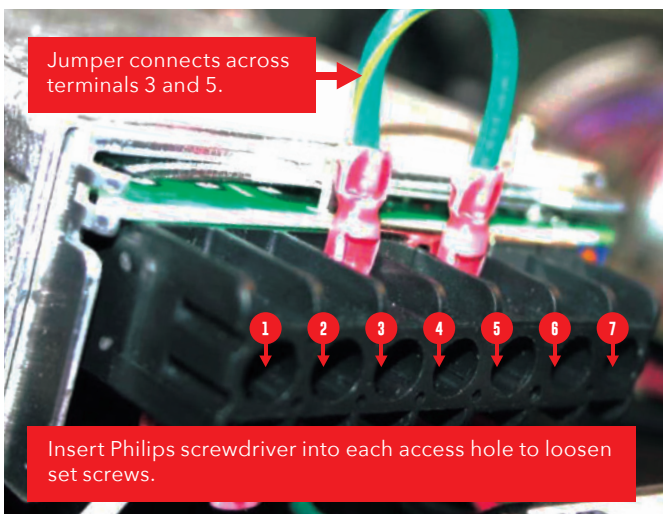

Figure 3. - AC POWER SUPPLY MODULE ELECTRICAL CONNECTIONS
8. Note the configuration of the five electrical leads connected to the existing AC power supply module. Refer to Figure 3 and Table 1. These leads will connect to the corresponding terminals on the new module. Using a Philips screwdriver, carefully loosen the set screws securing the electrical leads to the existing supply module terminals, then carefully remove the leads from the existing module. Also at this time, remove the jumper cable from across terminals 3 and 5 on the top side of the terminals.
11. Prior to installing the new power supply module and mounting bracket, connect the electrical leads and jumper to the new supply module as they were connected to the original module. Refer back to Figure 3 and Table 1 on the previous page. Secure each lead and the jumper across terminals 3 and 5 by placing each lead behind the mounting screw from underneath then tightening the mounting screw inside each terminal. Gently tug on each lead to make sure it is fastened securely.